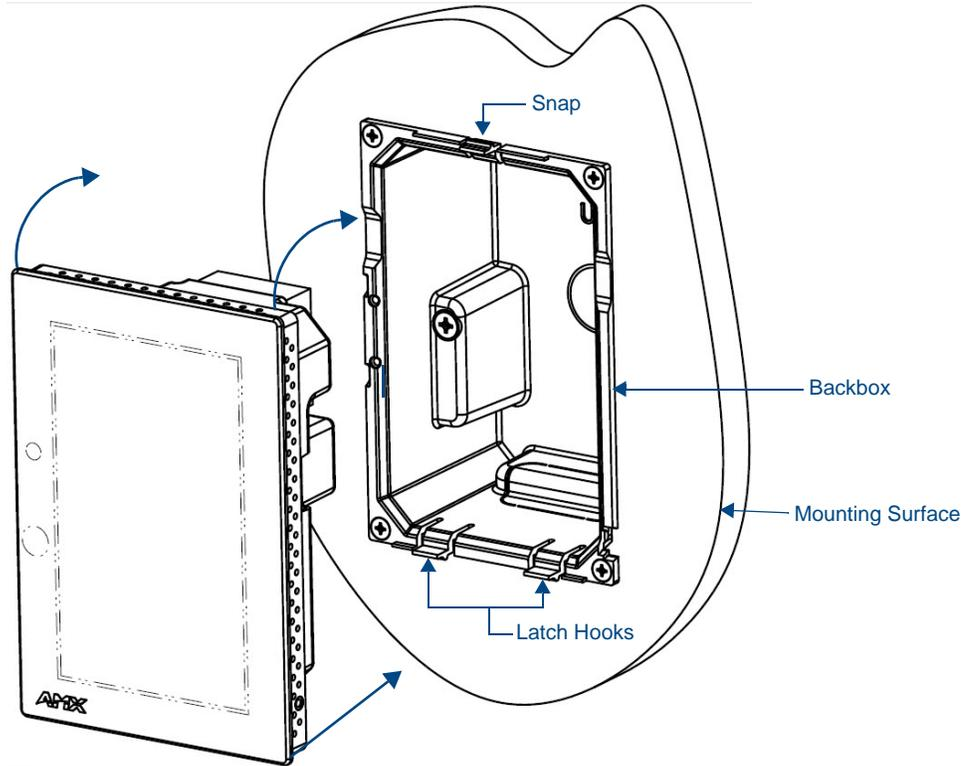

FIG. 46 Installing the MXD-430
10. Latch the panel onto the bottom hooks on the Backbox and push it up onto the top snap (FIG. 46). Press gently but firmly on the ends until the snap “clicks” to lock it down.
The MXD-430 is held in place to the Backbox via latch hooks and a clip on the Backbox (FIG. 46), securing it to the mounting surface. In certain circumstances, such as firmware updates or other maintenance that requires accessing the device's USB port, the device may need to be removed from the Backbox.